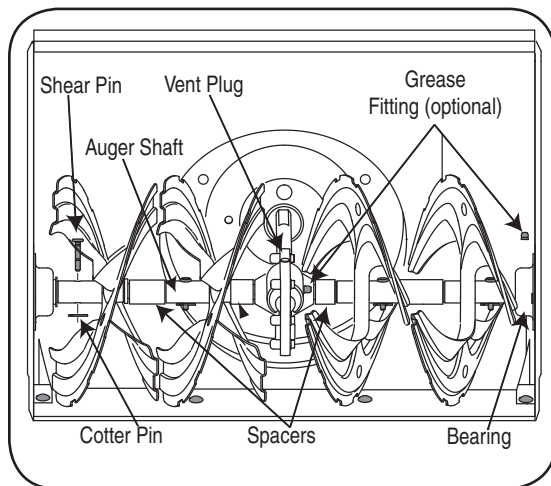

Figure 21
At least once a season, remove the shear pins on auger shaft. Spray lubricant inside shaft, around the spacers. Also lubricate the flange bearings found at either end of the shaft. See Figure 21.
- The augers are secured to the spiral shaft with shear pins and cotter pins. If the auger should strike a foreign object or ice jam, the snow thrower is designed so that the pins may shear. See Figure 21.